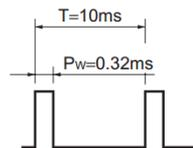

Figure 2: Pulse-driven wave
- 1) Enable the internal infrared emitting diode by setting the pin  $I_{LED}$  to HIGH. The drive pulse produced by an external controller is a square wave with the pulse width of  $Pw=0.32ms$  and the pulse cycle of  $T=10ms$  as Figure 2 shows.